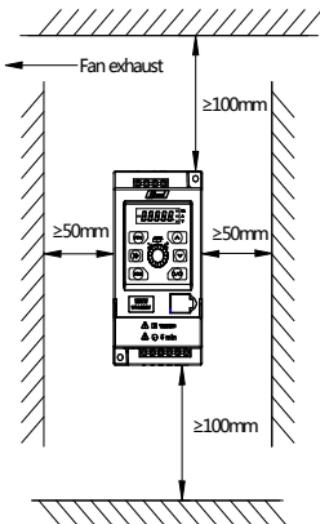

Figure 2-1 Installation Gap Diagram
- (1) Generally, vertical installation shall be adopted.
- (2) Minimum installation gaps and distances are shown in Figure 2-1.